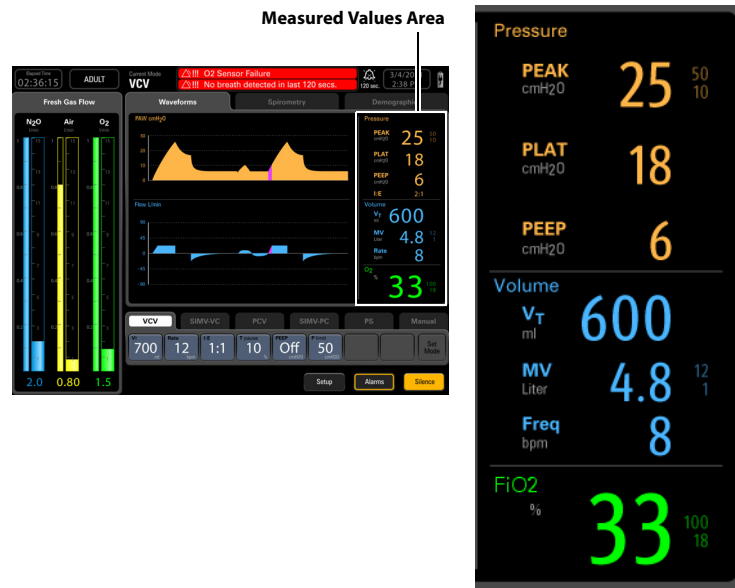

FIGURE 3-26 Measured Values Area
The Measured Values area is used to display the numerical data. The parameters include: Peak Inspiratory Pressure (PEAK), Plateau Pressure (PLAT) (user can configure this to display Mean Pressure (MEAN) or PLAT (see “Pressure Display” on page 3-25)), Positive End Expiratory Pressure (PEEP), I:E Ratio, Expiratory Tidal Volume (V_T), Expiratory Minute Volume (MV), Breath Rate (Rate), and Inspiratory O₂% (FiO₂). (FIGURE 3-26)